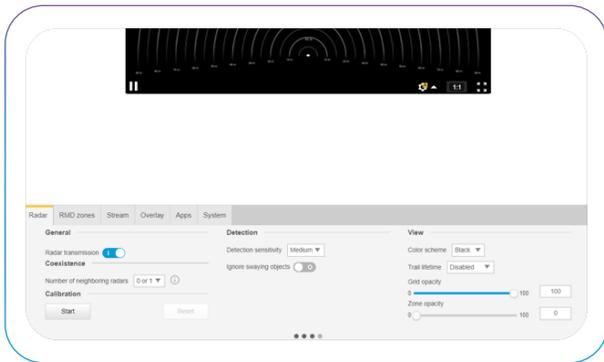

Figure 10. Start button for Calibration
A. Click the **Start** button (Figure 10).